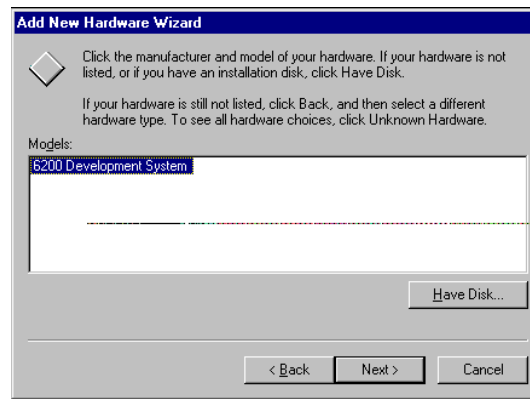

Figure 11
- ⇒ When the Windows 95 **New Hardware Found** dialog appears; select the '**.inf**' file located in the Hotworks directory. C:\Hotworks\drivers\hotworks.inf. See figures 11, 12, 13.